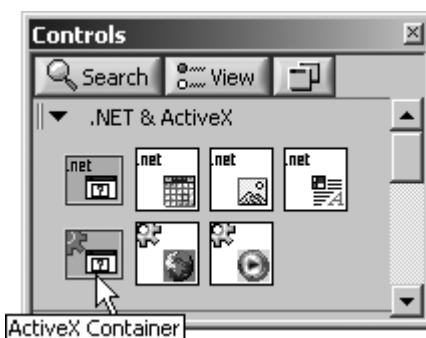

Figure 16.37
1. Open a new VI in LabVIEW. From the **Controls>>.NET & ActiveX** palette, select the **ActiveX Container** object (see Figure 16.37). Resize it to be very large on your front panel. Do *not* select the **Web Browser** object. This activity is going to demonstrate how to configure the **ActiveX Container** object yourself, rather than using a preconfigured **ActiveX Container**.